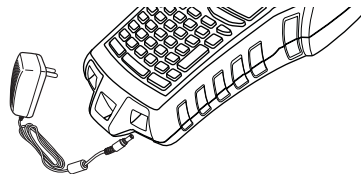

Figure 2
1. Plug the power adapter into the power connector on the bottom of the printer. See Figure 2.